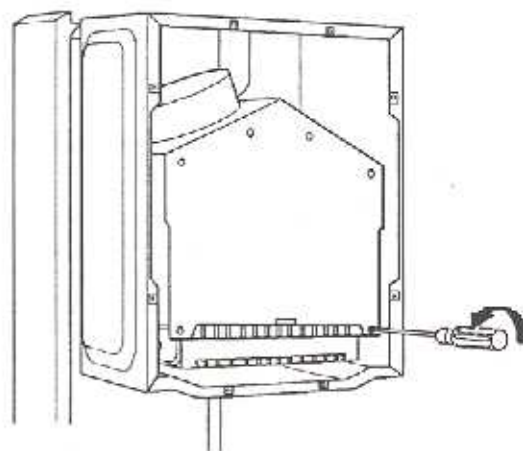

Fig.27
8.6.3 Remove front of combustion chamber by releasing six screws (fig.27)